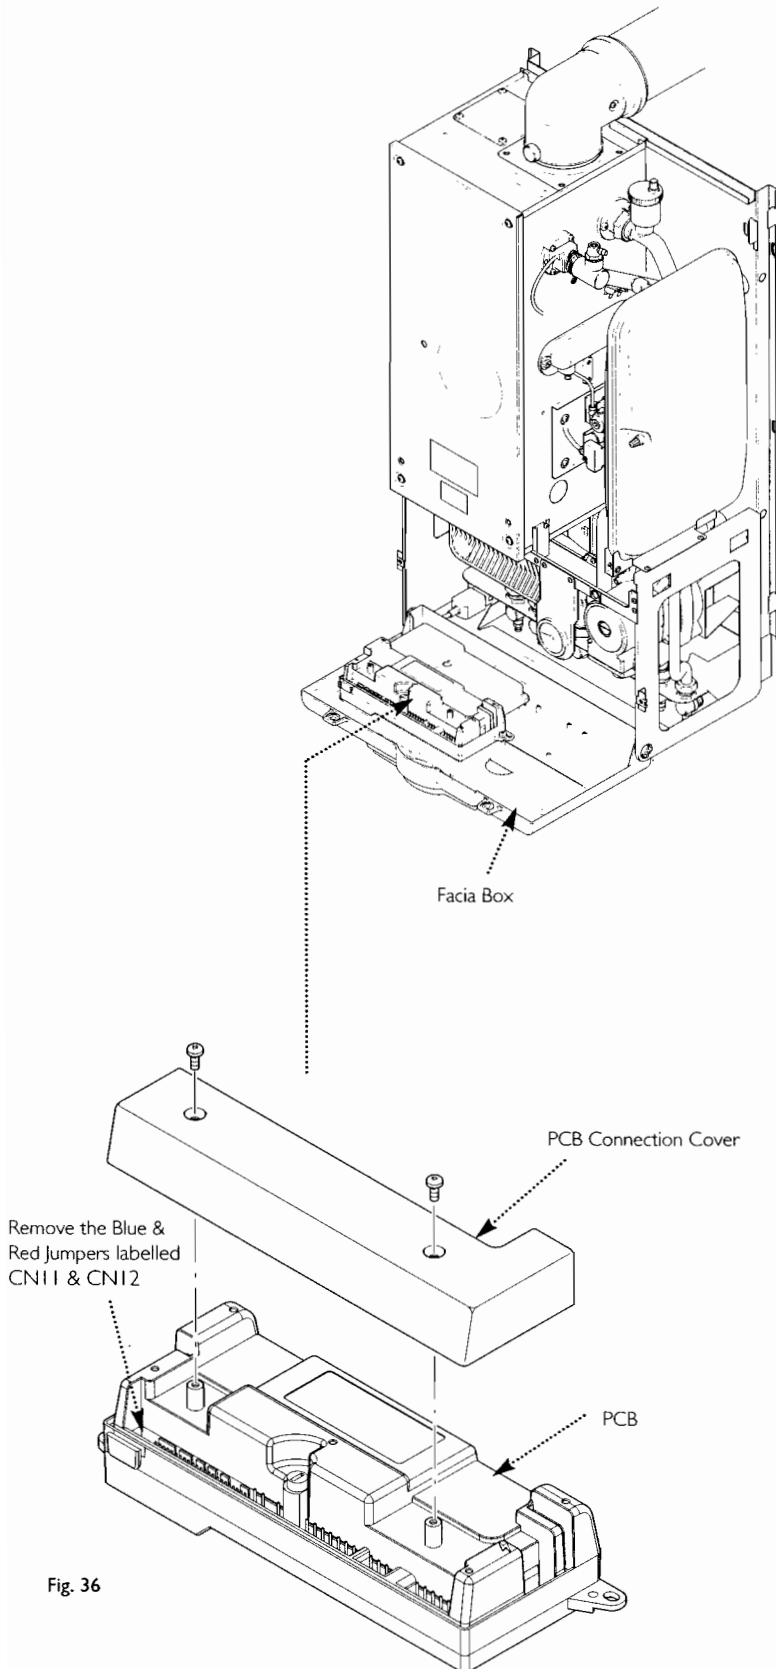

Fig. 36
10.3 Switching Off The Intelligent Pre-heat (Fig. 36)